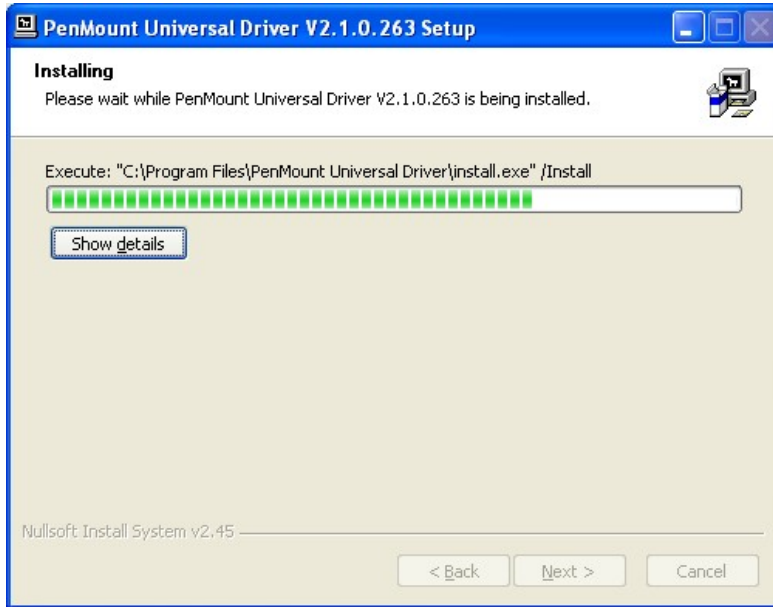

Figure 6-24: Touch Screen Driver Installation Screen
Step 10: The **Install** screen appears and displays the progress of the installation (Figure 6-24).